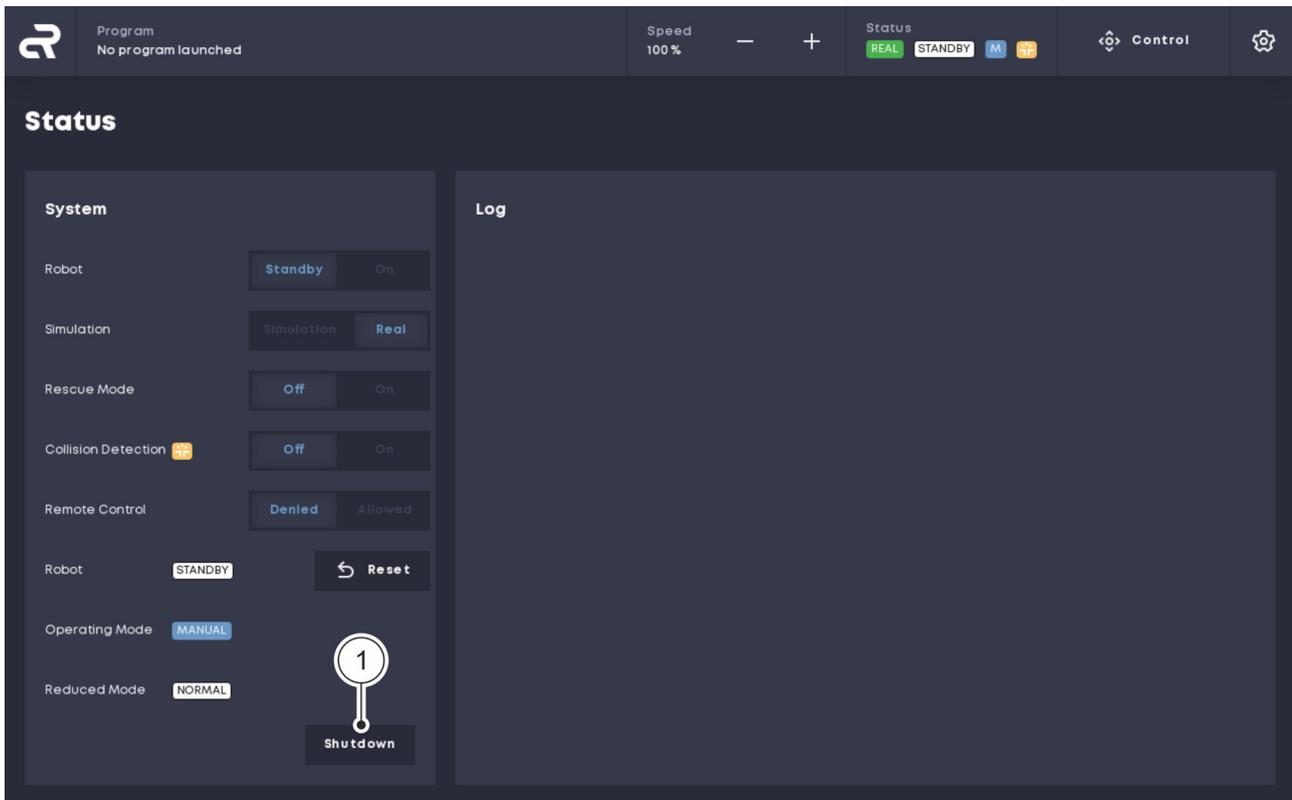

Fig. 58 Switching the robot off
01. In the 'Status' menu, click the 'Shutdown' button Fig. 58/1.